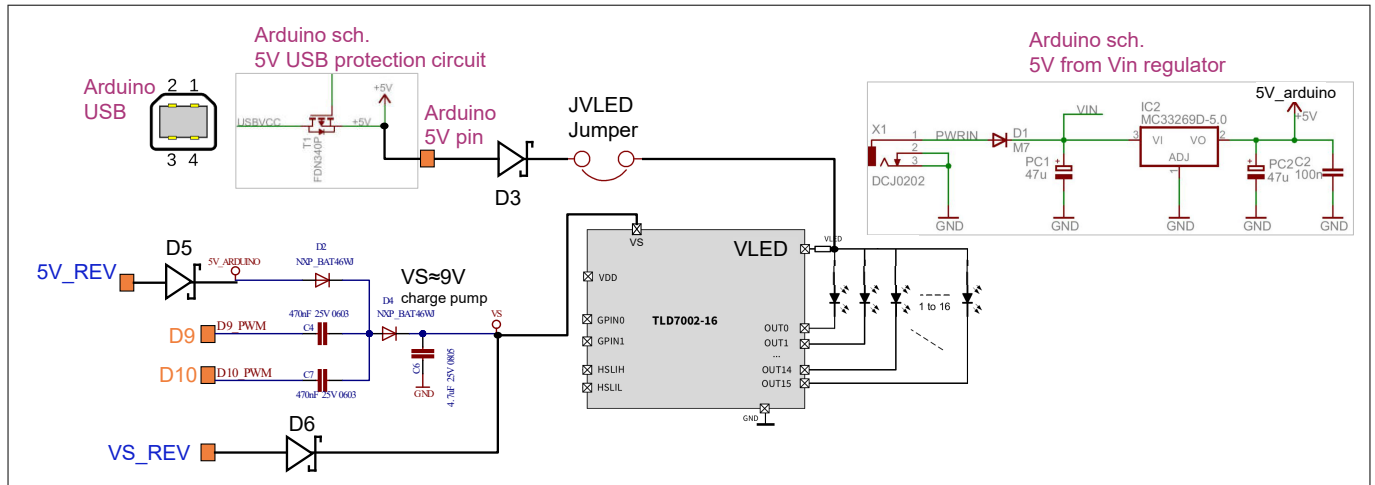

Figure 4 TLD7002-16SHIELD power supply connections with Arduino UNO R3
- Keep total LED current below 400 mA to avoid damages to Arduino T1 transistor, see Figure 4